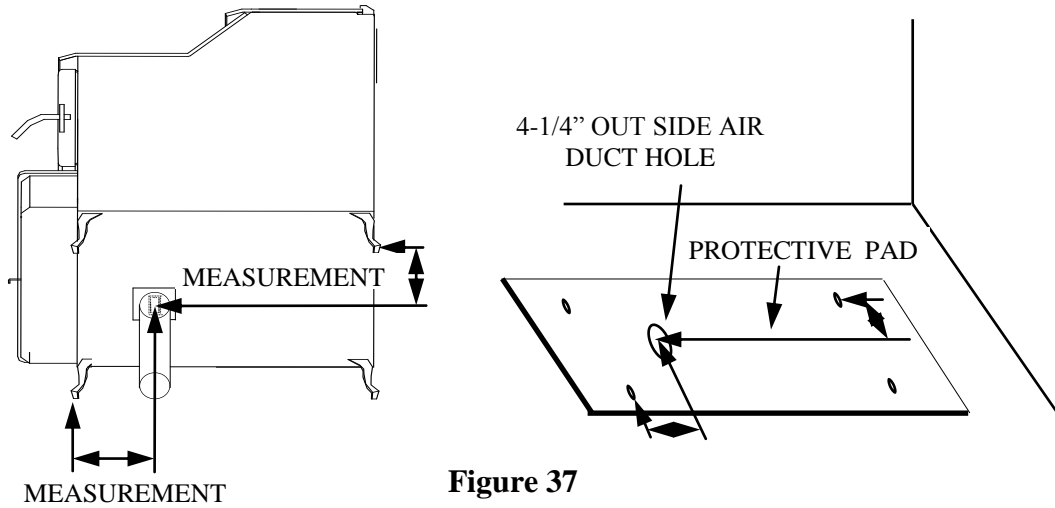

Figure 37
5. Obtain the outside air duct from the box, Part# MA 70075-01 Measure from center of front feet back to center of air inlet, and from center of side legs to center of air inlet, Use these measurements to center and mark the placement of the outside air duct. Pre-drill (4) 1/8" holes into the bottom of the heater to attach outside air duct to the heater with screws provided, attach, test fit, and temporarily leave the outside air duct on the bottom of the heater.
6. Measure the location of the outside air duct that's temporarily attached to heater using the legs feet for reference measuring points to find the center of out side air duct. Use these measurements to mark the center location of the outside air duct onto the protective pad. (see Page 43 Figure 37). **Note:** Be sure to measure one more time for floor joist, and or obstacles beneath floor where hole is to be cut.